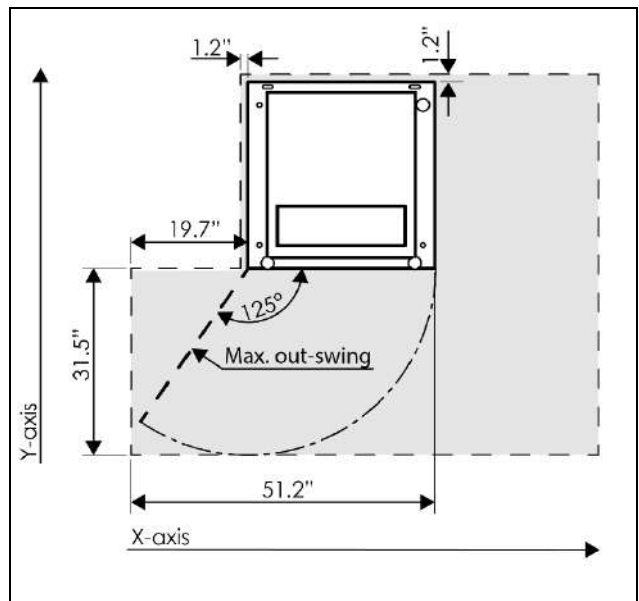

Figure 12: Top view EVSE cabinet - door clearance
See Figure 12.
- The door swing shall not be blocked, additional clearance space may be required. See Figure 12.
- ●(A) Anchor positions accessible from the front and rear of the charger.
- ●(B) Anchor positions accessible from the left and right of the charger.